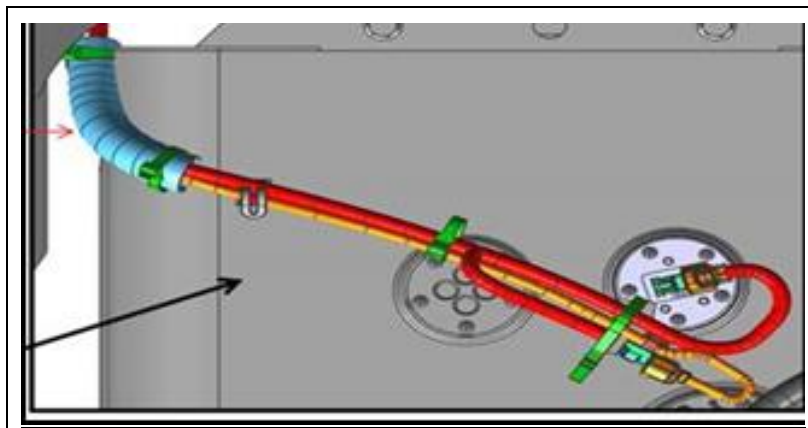

Figure 39
2. Disconnect the primary fuel sender harness connector and re-connect it to the DFT harness, then connect the DFT harness connector to the primary fuel sender. (See Figure 39.)